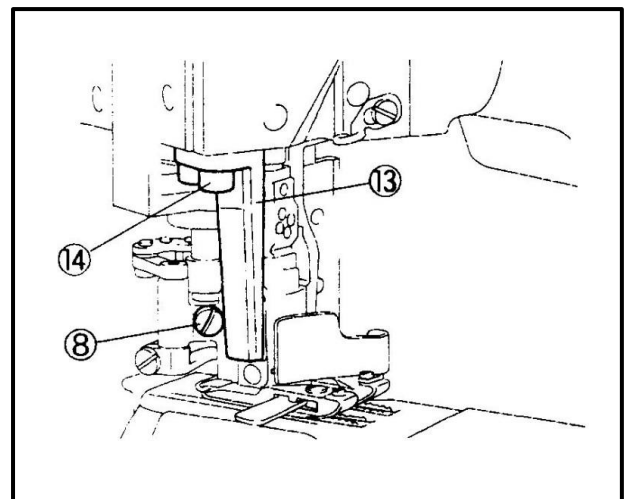

Fig.68
- (1) Remove all needles, Reset the presser foot, c.set between the presser foot guides(left)and (right) while turning ti to the right diagonally from the back.
- (2) Reset the carrier/hook driving segment ① on the lever ② on the carrier/hook driving sleeve.
- (3) Insert the presser bar into the carrier/hook driving segment ① and tighten the screw on the back of the presser foot.
- (4) Check the presser foot moves smoothly without play right and left. If not, loosen the screw ④ of the presser foot guide(left) ③to adjust it.
- (5) Reset the knife holder guide collar, c.set ⑤ and the upper knife on the knife holder bracket ⑥ with two screws.
- (6) Adjust the positions of the knife holder guide collar Fig.68 and the upper knife when the needle is at the lowest point.